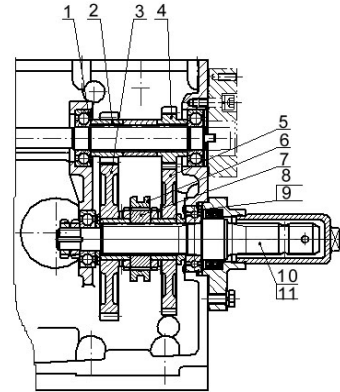

Fig. 6-28 Oil pump & oil pipe assembly
6.3.2 Structure and use of PTO shaft (Fig. 6-28)